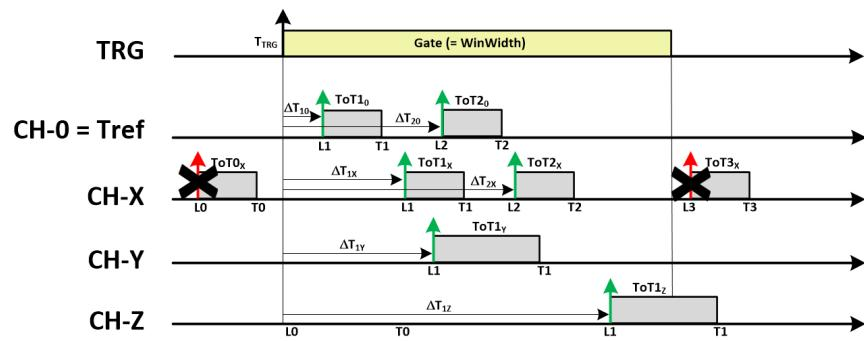

Fig. 2.2: Schematic diagram of Trigger Matching Acquisition Mode: hits 0_x and 3_x are rejected because outside the trigger window.
- **TRIGGER MATCHING:** Multiple hits, in the same or more channels, inside a trigger window are recorded (see **Fig. 2.2**).